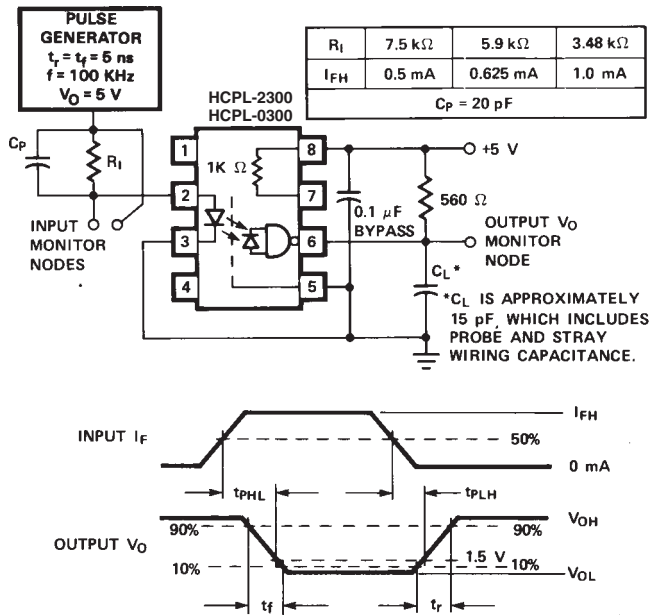

Figure 8. Test Circuit for  $t_{PHL}$ ,  $t_{PLH}$ ,  $t_r$ , and  $t_f$ .
8.  $C_{\text{P}}$  is the peaking capacitance. Refer to test circuit in Figure 8.